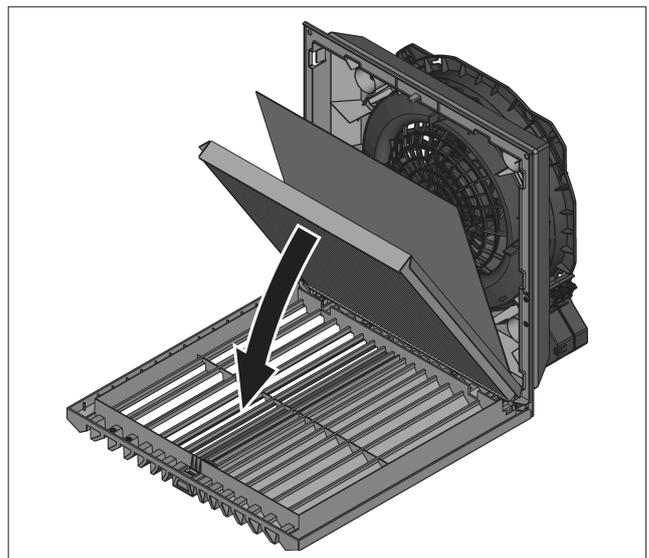

Fig. 15: Installing the IP 55 pleated filter
- For IP 55 only: Place the IP 55 absorber mat supplied with the pleated filters on the previously placed pleated filter (see fig. 15). The installation direction of the absorber is not critical.